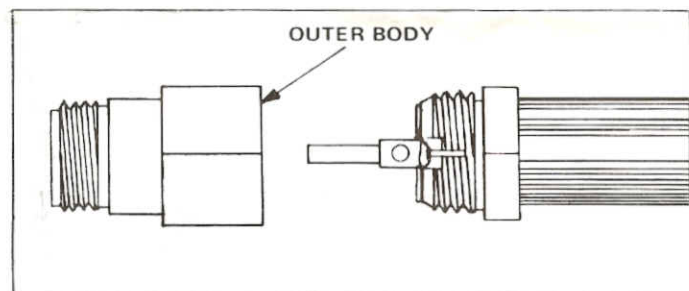

FIGURE 4
**STEP 4.** Screw outer body onto clamping nut. See Figure 4. Tighten connection with wrenches. Turn outer body only; do not turn clamping nut. Force silicone grease into opening between cable and clamping nut to prevent moisture from entering. For further weatherproofing, tightly wind four or five layers of vinyl tape over opening and at least 1 in. to either side.